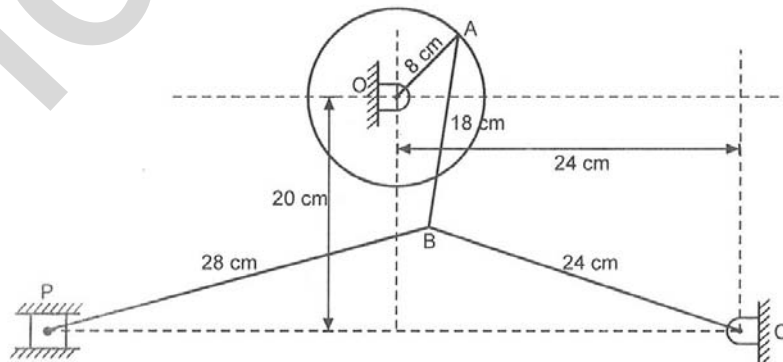

Fig. 1
5. (c) Draw the configuration diagram as shown in Figure 1 on suitable scale.